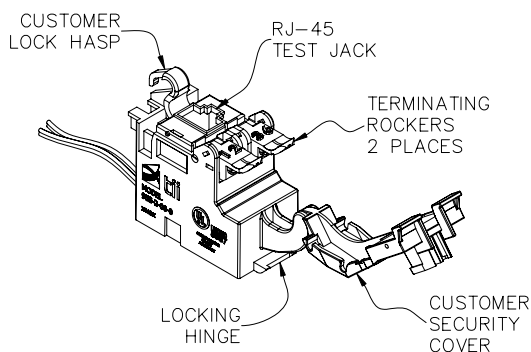

Figure 1
1. The tii 95S-2-00-0 Sealed Subscriber Bridge Module with RJ-45 Test Receptacle maintains a constant direct connection between customer and central office service provider. The Bridge is equipped with a test jack and IDC terminations (see figure 1). The test jack is provided as an access for test equipment to assure a signal is being received and transmitted properly.
1. The receive and transmit pairs are connected to the Bridge. Customer has the option of installing a #10 Master lock around the customer lock hasp (see figure 1).